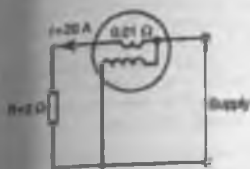

Figure 10.13
Problem 6. (a) A current of 20 A flows through a load having a resistance of $2\ \Omega$. Determine the power dissipated in the load. (b) A wattmeter, whose current coil has a resistance of $0.01\ \Omega$ is connected as shown in Fig. 10.13. Determine the wattmeter reading.
- 2 (a) A current of 15 A flows through a load having a resistance of $4\ \Omega$. Determine the power dissipated in the load. (b) A wattmeter, whose current coil has a resistance of $0.02\ \Omega$ is connected (as shown in Fig. 10.13) to measure the power in the load. Determine the wattmeter reading assuming the current in the load is still 15 A.